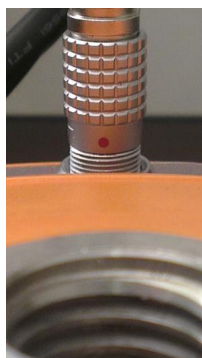

Figure B-1: The red dot on the lemo plug should align with the centre of the Altus NR2
- Insert the lemo plug into the Altus NR2 by aligning the red dot on the connector with the centre of the unit as shown in Figure B-1